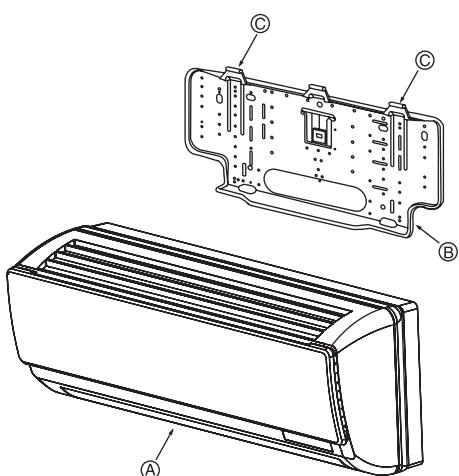

Fig. 3-8
3.3. Mounting the unit (Fig. 3-8)